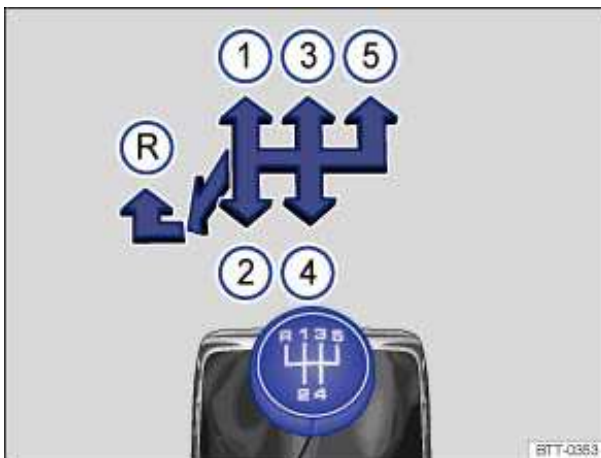
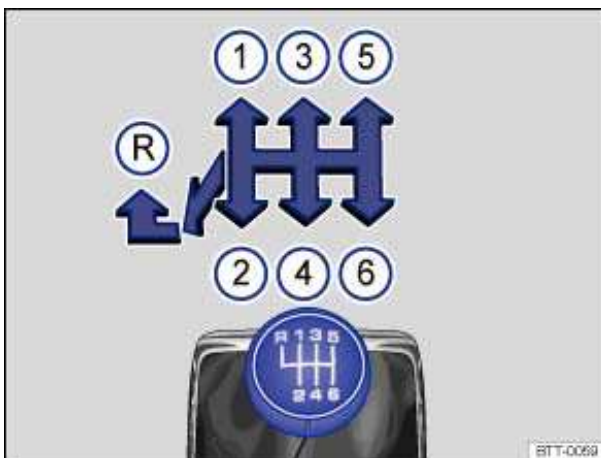

Fig. 115 Gearshift pattern of a 5-speed manual transmission.
Fig. 116 Gearshift pattern of a 6-speed manual transmission.
The positions of the individual gears are shown on the gearshift lever ⇒ fig. 115 or ⇒ fig. 116.
- Move the shift lever to the left and then push forward into the reverse gear position ⇒ fig. 115 \(R\) or ⇒ fig. 116 \(R\).